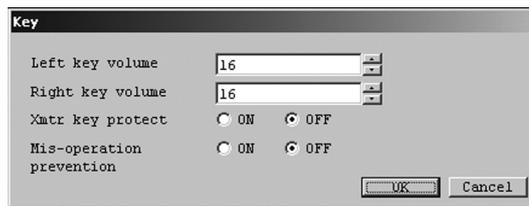

Fig.88
- ① Click the "Setup (S)" menu, and then select and click "Key".
- ② The following window will be displayed (Fig. 88). Set the sensitivity of converter keys and other items here.